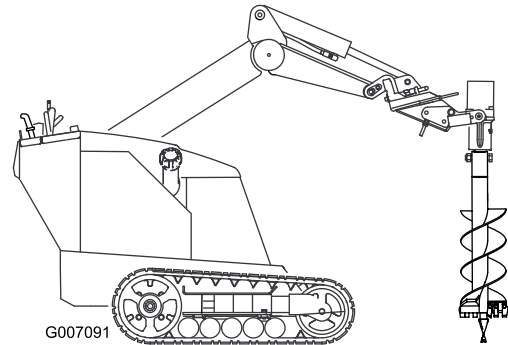

Figure 6
11. Raise the auger free of the ground (Figure 6).